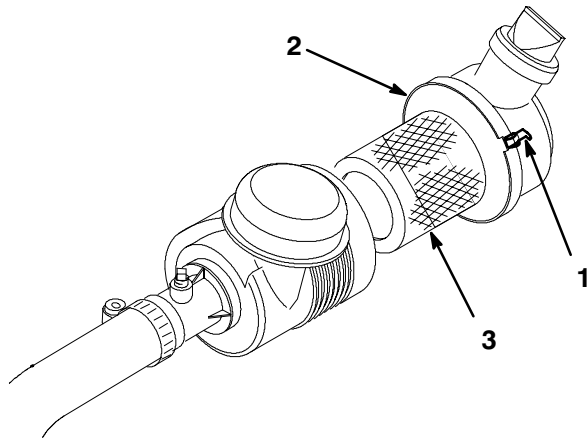

Figure 33
1. Release the latches securing the air cleaner cover to the air cleaner body (Fig. 33). Separate the cover from the body. Clean the inside of the air cleaner cover.
3. Reinstall the cover and secure the latches (Fig. 33).